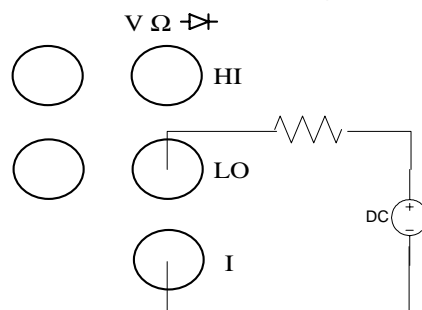

Figure 10b
3. connect the DMM in series as shown in Fig. 10b